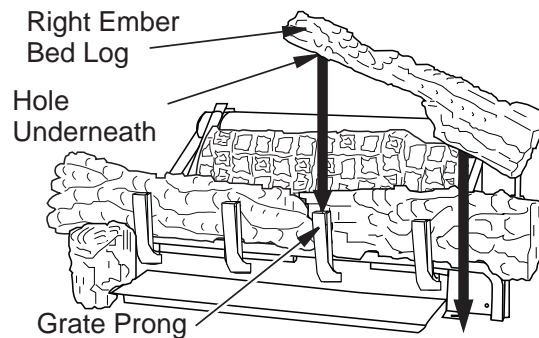

Figure 31 - Installing Right Ember Bed Log
- The right ember bed log 24" & 30" (D-047) has a hole in the log that sets on the grate finger and the other end rest on the fireplace floor, place log as shown in **Figure 31**. The right ember bed logs for 18" (D-072) has a groove on the side that sets on the ember bed pan and the back of the log needs to rest against the front of the base. Make sure the flame from the ember pan does not touch the ember bed log. The back side of this log needs to rest against the front of the base assembly, make sure the flame from the ember pan does not touch the ember bed log.